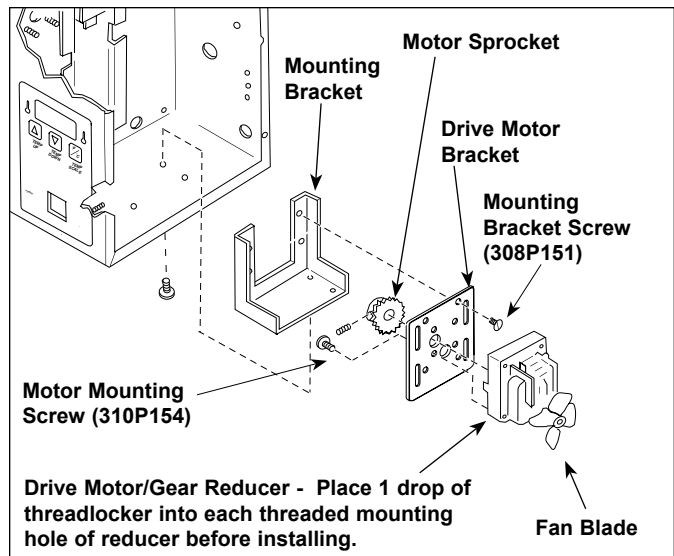

Figure 16. Replacing Drive Motor and Fan Blade
6. Attach the motor sprocket to the gear reducer as shown in Figure 16.